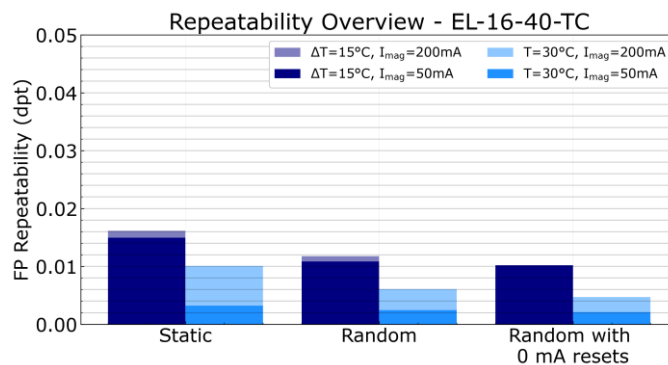

Figure 16: Summary of the repeatability test results (SD for the different combinations of driving scheme, current range, and lens temperature).
Figure 16 summarizes the results of the repeatability tests in the form of a bar chart, showing the standard deviation (SD) of the focal power deviation for all combinations of driving scheme, current range and lens temperature.
- For all testing conditions, the repeatability (SD) is well below 0.020 dpt (20 mdpt).
- For all driving schemes and both current ranges, the repeatability (SD) is below 0.010 dpt (10 mdpt), when the test is performed at a stable temperature of 30 °C.
- For all driving schemes, when a range of +/- 50 mA is used (this corresponds to ≈ 1.5 dpt) at a stable temperature of 30 °C, the repeatability (SD) is lower than 0.005 dpt (5 mdpt).